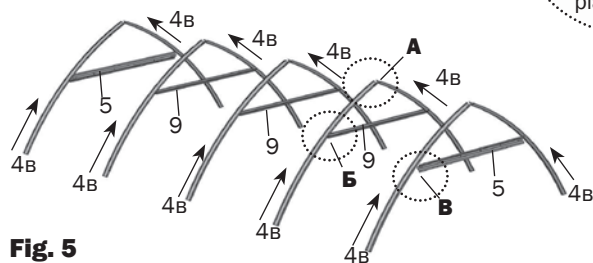

Fig. 5
2. Install greenhouse in accordance with photographs of installation stages and units represented in **Fig. 5...12**. The figures show installation of greenhouse of 4 m length. Required length is reached using attachment of appropriate number of Vstavka insert packages. Use M5x10 screws for connection of elements.